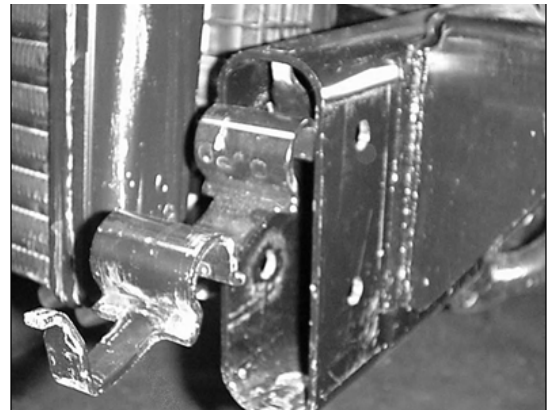

Figure 2
4. Use a large screwdriver to pry the anti-crush spacer out of the front of the frame rail; it is not necessary to completely remove it from the frame. (Figure 2)